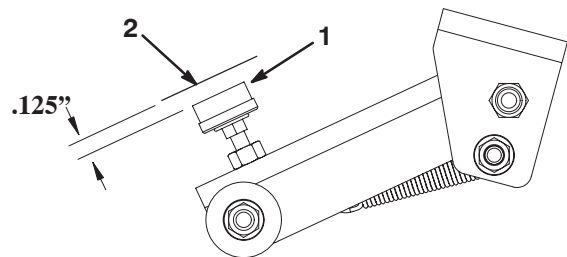

Figure 78
4. Clearance between adjustment screw rubber (Fig. 78) cushion and deck latch should be .125". If an adjustment is required, loosen nut on adjustment screw, adjust screw until required clearance is attained and tighten nut.